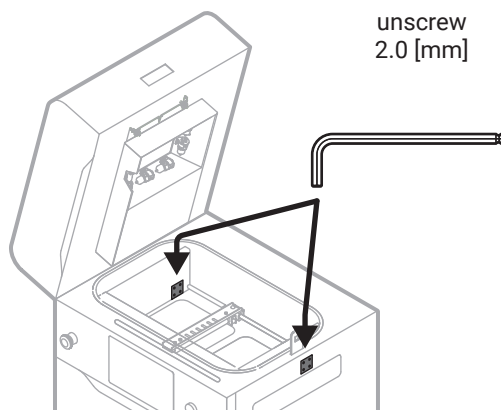

Fig. 3 Unscrew the screw of the Recoater cord plate.
9. Using a 2 mm (Recoater cord) or a 2.5 mm (Recoater strip) allen key, unscrew the screws on the Recoater cord mounting plate on the left and right sides (fig. 3).
10. Fit metal caps in the side holes. Use eight M3x6 screws (four per side) and allen key 2.5 mm.